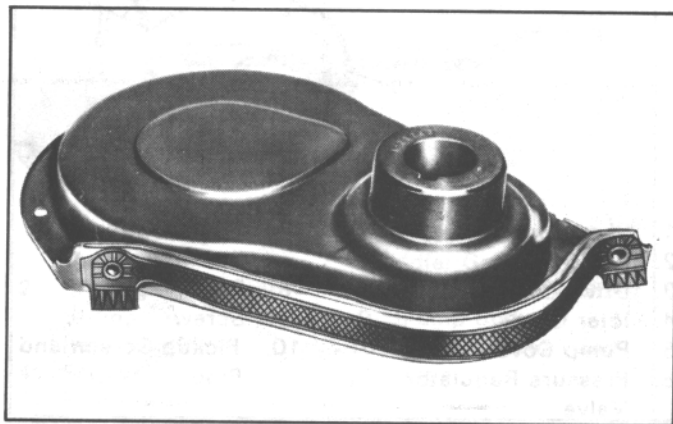

Fig. 122. Centering Tool in Cover (In-Line)
- (a) Lubricate seal lip with lubriplate then install crankcase front cover aligning tool J-23042 in seal (Fig. 122).